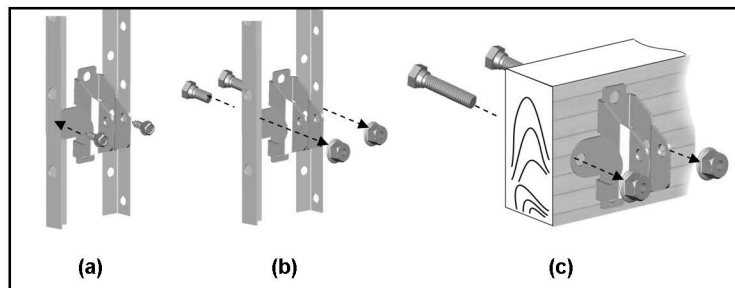

Fig.2
2. Depending on the construction of your door, install using one of the steps shown in Fig. 2 below:
(a) Mark and drill two 3/16" holes. Make sure not to drill through the garage door. Secure the Door Bracket with two 1/4" x 1" Self-Threading Screws (provided) as shown in Fig.2(a).
(b) Alternative installation: Drill two 5/16" holes through the door. Secure the Door Bracket using two 5/16" Bolts, lock washers and nuts (not provided) as shown in Fig.2(b). The length of bolts will depend on the thickness of your door.
(c) Mark and drill two 5/16" holes through the garage door. Secure the Door Bracket using two 5/16" carriage bolts, washers and nuts (not provided) as shown in Fig.2(c). The length of bolts will depend on the thickness of your door.